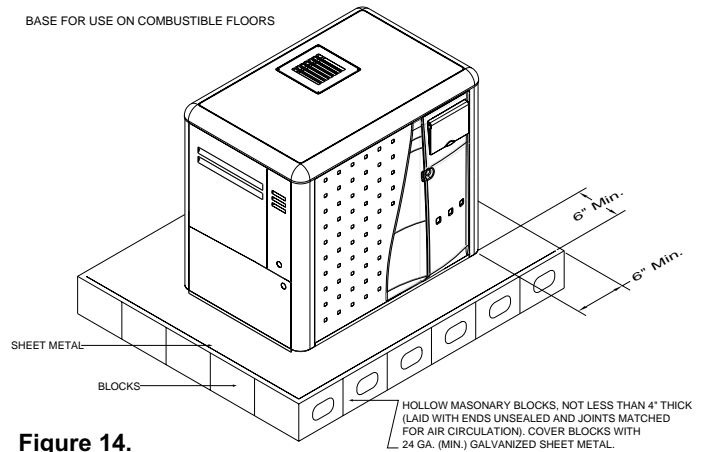

Figure 14.
- b) Construct a non-combustible base from masonry blocks as illustrated, see Figure 14.